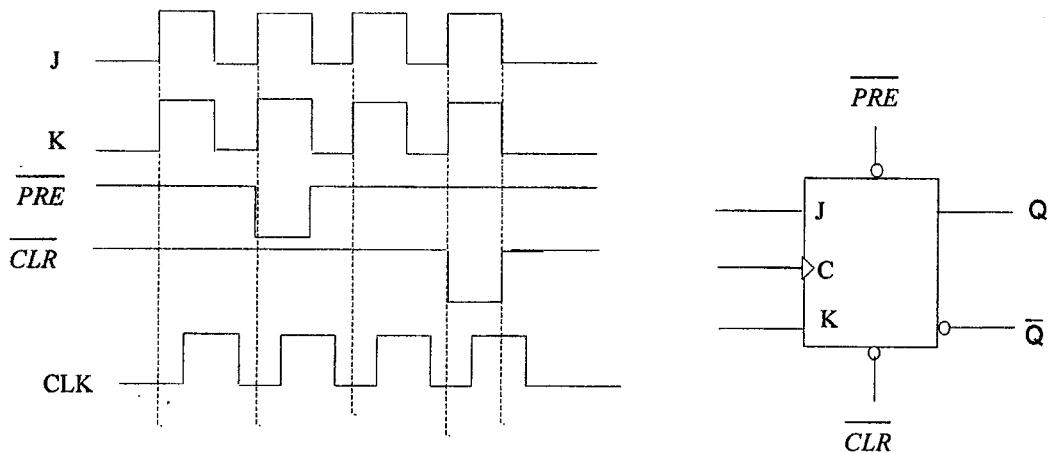

Figure 10
- (b) Determine the Q waveform if the signals in Figure 10 are applied to the inputs of the JK flip-flop.